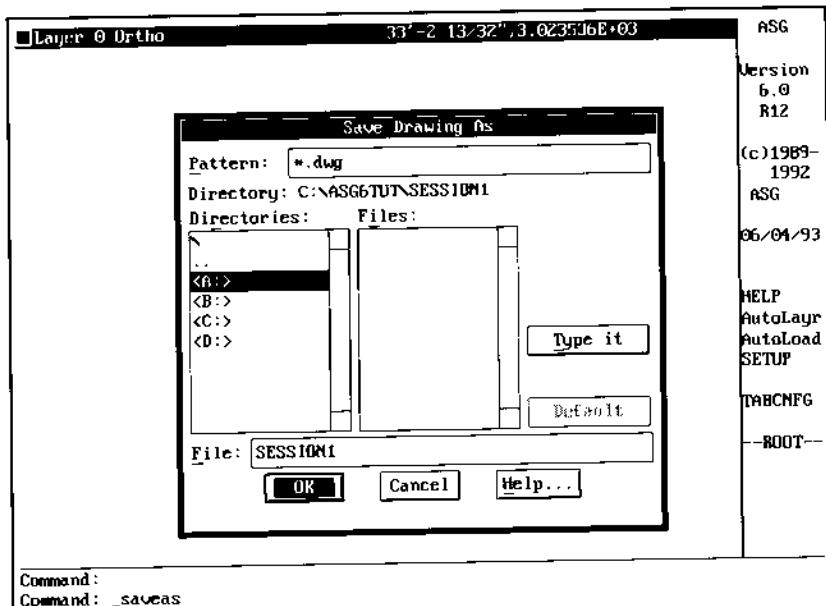

Figure 14.
3. The Save Drawing As dialog box opens listing Directories and Files as shown in Figure 14. Enter the name SESSION1 in the File: edit box, then pick OK.